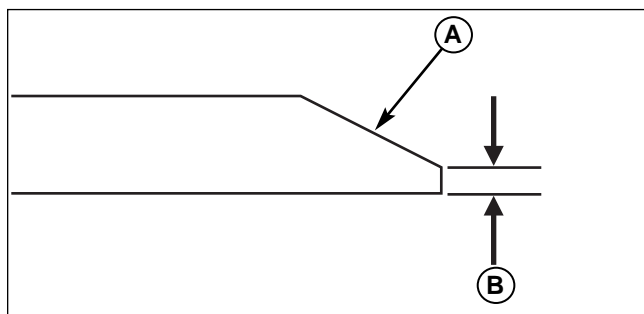

Figure 28. Sharpening the Mower Blade
3. Keep the original bevel (A, Figure 28) when grinding. DO NOT change the mower blade bevel.
4. The mower blade should have a maximum 1/64" (0,40 mm) cutting edge (B) or less.